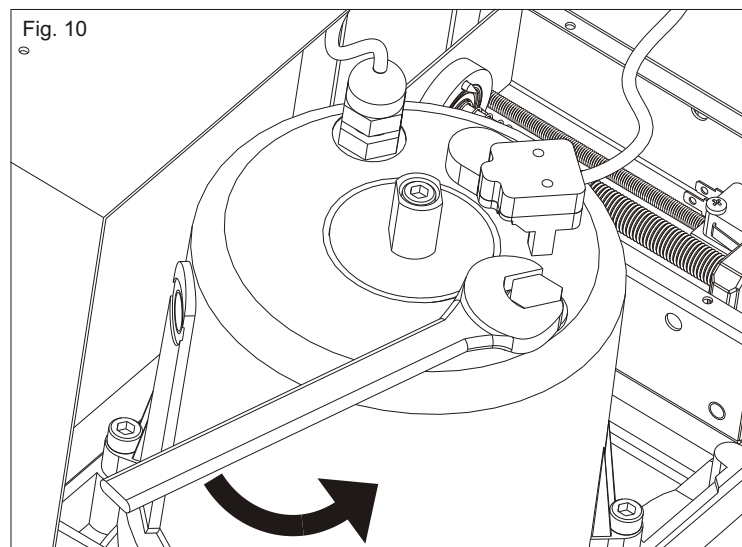
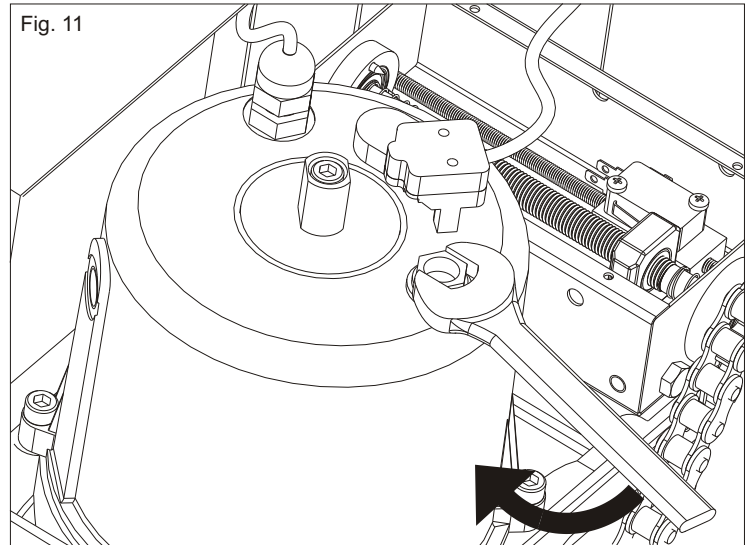

Fig. 10
Fig. 11
2) Remove the closing loading oil cap (Fig. 10) and substitute it with that supplied apart provided with the airhole (Fig. 11).